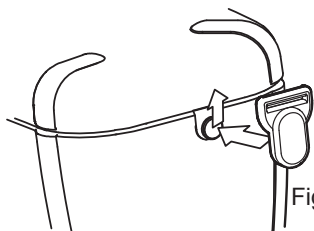

Fig. 22-1
- (1) Attach the Buckle to the KEW 6516/6516BT as shown in Fig.22-1.